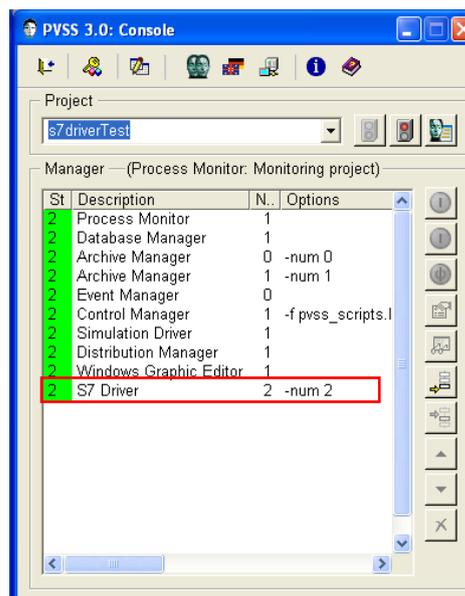

Figure 7 - PVSS console: adding new S7 manager
- (2) Add a simulation manager or the S7 driver manager in your PVSS project console in order to be able to define the S7 address configuration (Figure 7). Run the chosen manager.
- **Driver number:** Select the number of the driver whom you will read/write your data for this DPE. It must be the same as the one specified at the time you run the s7 driver (Figure 7: driver number 2). Do not forget you can have several S7 drivers running reading/writing to several PLCs.